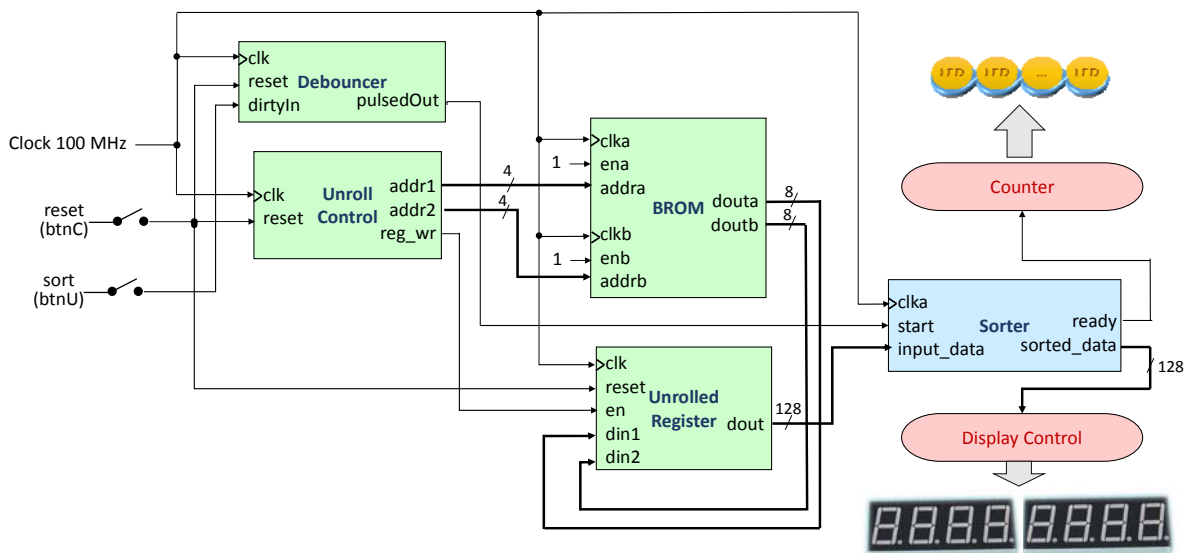

Figure 2 – The block diagram of the sorting circuit.
6. The simplified circuit block diagram is illustrated in Fig. 2. Use the following I/O components to interact with the circuit. Do not forget to modify the file "Nexys4_Master.xdc" accordingly.
8. Once your design is optimized and functional, return to the Vivado project from the part I and replace the sorting circuit (block Sorter in Fig. 2). The synthesized RTL VHDL code (“EvenOddIterSorter.vhd”) is available in the HLS project folder /solution1/syn/vhdl/EvenOddIterSorter.vhd. Include this file as a source and provide for the required connections with the rest of the blocks shown in Fig. 2.